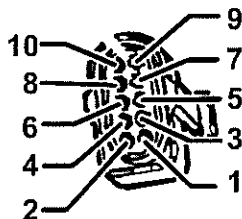

Fig 31 10-pin injection pump connector - socket
73.8 Check wires between test box and connector for breaks (see Fig 31) using vehicle wiring diagram: